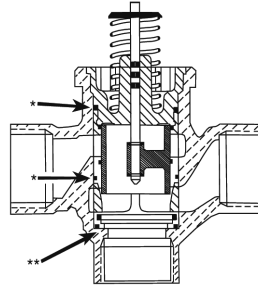

Fig. 4.
6. Clean the valve surfaces marked * (all valves) and ** (3-way valves only) in Figure 4 to ensure the new cartridge O-rings seal at these points. Use care to avoid damage to these surfaces.